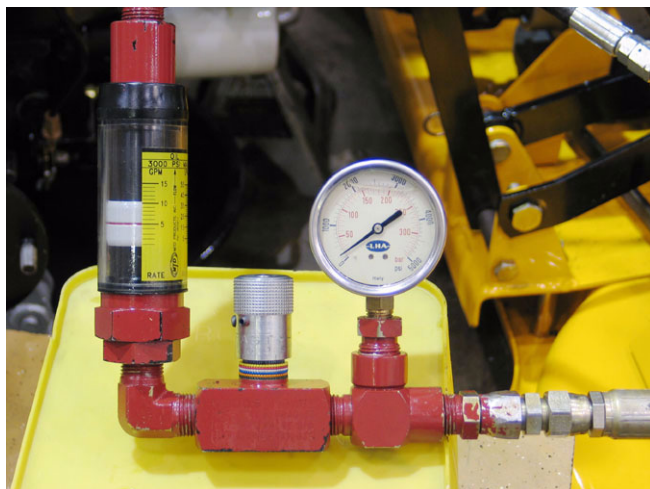

Figure 8.13
- 8.13. The flow meter should rise to 4 GPM (15 LPM) and hold steady at that level. See Figure 8.13.